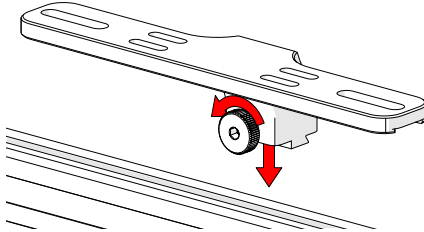

Fig. 189 - Loosen knob and mount to dovetail groove
1. Loosen the knob and align with the dovetail groove (Fig. 189).